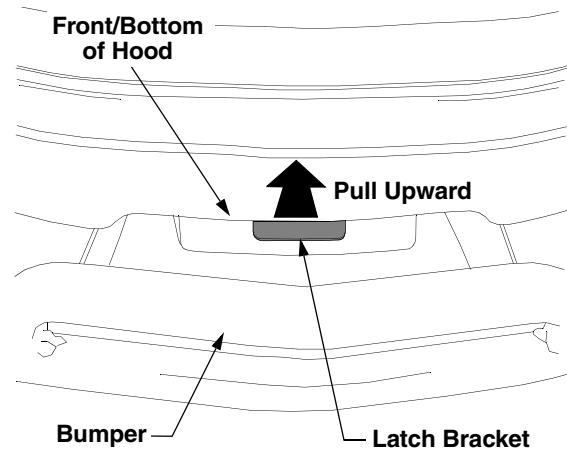

Figure 1
- Locate the latch bracket at the bottom/center of the front of the hood. See Figure 1.